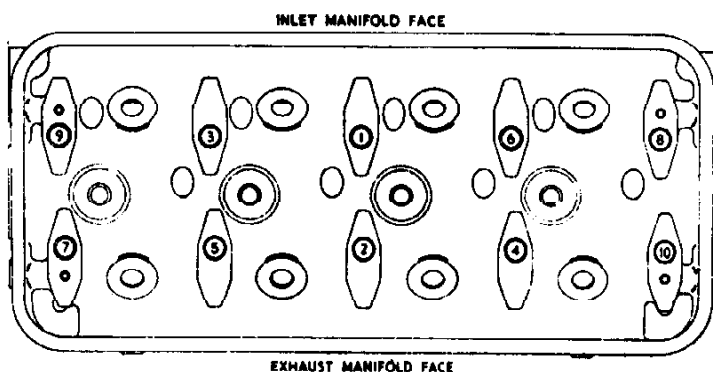

Figure D21
- (iii) That the valve operating gear and the two cylinder heads are tightened down as detailed in Fig. D21.